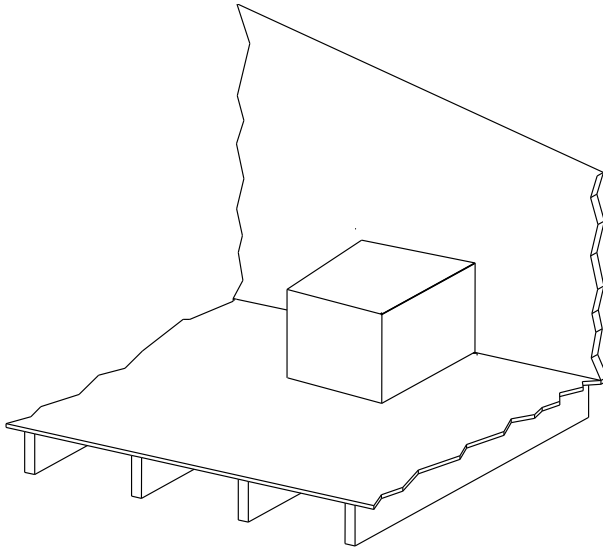

Fig. 11 – Upflow Stand
2. Place the Upflow Stand in the desired location and attach to the floor with wood screws (Fig. 11).